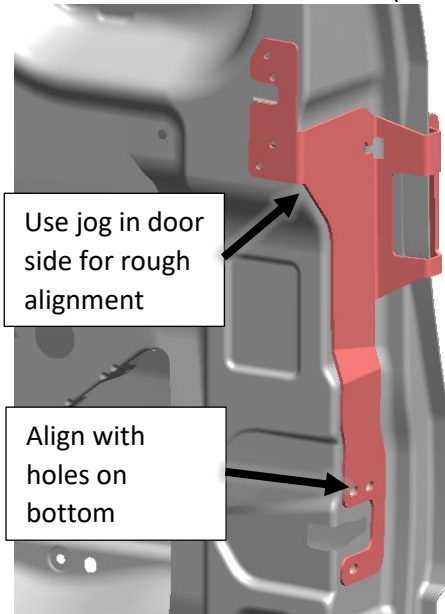

Figure 28: Dry Fit Bracket Up to Door
- c. Dry fit bracket to door (Figure 28).